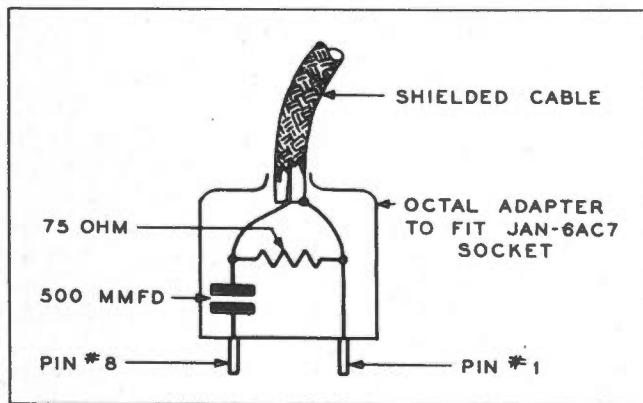

Figure 5-2. Adapter Used with Sweep Generator when Tuning Pre-amplifier Coils
(1) Remove the tubes V10, V12, V1, V2, V3, V4, and lamp I1 from their sockets on the transmitter. Unsolder the lead from terminal No. 1 (300-volt terminal) on the female part of the five-terminal connector on the oscillator-mixer-power amplifier unit.
(2) Connect the sweep oscillator to the socket of tube V4 on the pre-amplifier chassis, using the adapter illustrated in figure 5-2. This introduces the signal between the plate of this tube (terminal No. 8) and ground (terminal No. 1).